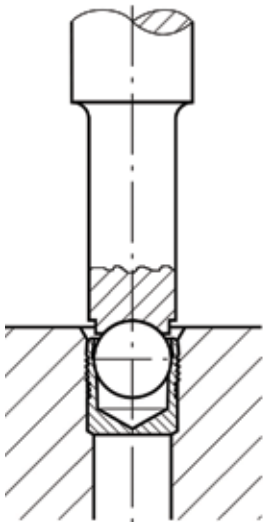

Fig. 2
- The ball can now be pressed in until the top of the ball is below the edge of the sleeve (Fig. 2 and 3). Corresponding approximate values for stroke S as well as the dimensions X are from the table below.